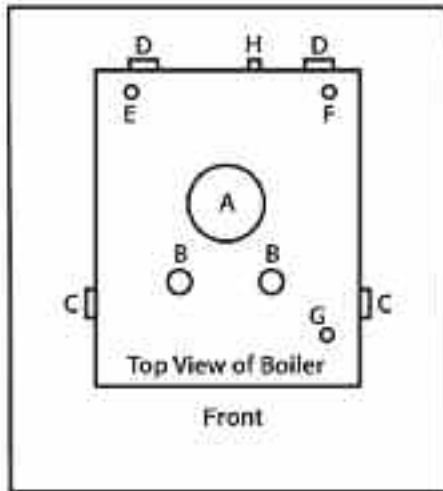

Fig. 6
2. Screw 30# relief valve into port E on top back left corner of boiler. See Figs. 6 & 7 for port location.
6. Screw temperature pressure gauge into port F on top back right corner of boiler. See fig. 6 for port location.
7. Apply sealant and tighten 3/4" boiler drain on back center port H of boiler. See fig. 6 for port location.
9. Port's B of boiler are hot water feed outlets. See Fig. 6.
10. Port's D of boiler are cold water return ports. See Fig. 6.
11. Port's C of boiler are optional hot water feed ports for gravity or circulator systems that require a lower outlet. You must install an auto air vent on top of boiler when using side outlets for hot water feed. See Fig. 6.